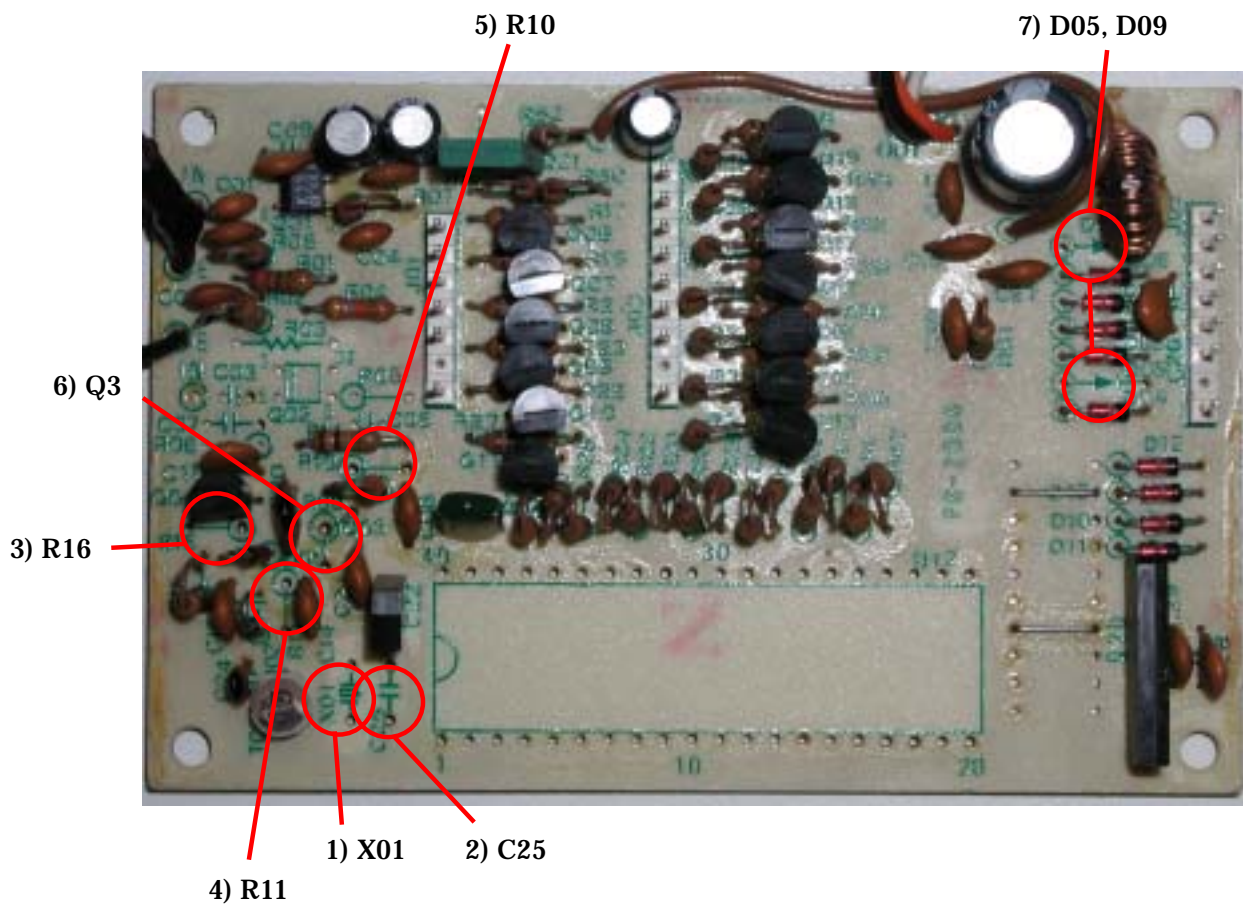

Fig. 2 Location of the Parts to be Replaced/ Removed
- Please refer to Fig. 1 and Fig. 2 for the locations of the modification on the schematic diagram and the picture of the board.
Though there are some differences, the internal frequency relationship, frequency offset calculations are exactly the same as FT-101Z. The exact same modification can be applicable to FT-107 and the same PIC microcontroller software/ binaries can be used. Modifications to PB-2086A can be performed according to Fig.2, but care needs to be taken, as additional components on the FT-107 circuit boards may be confusing.